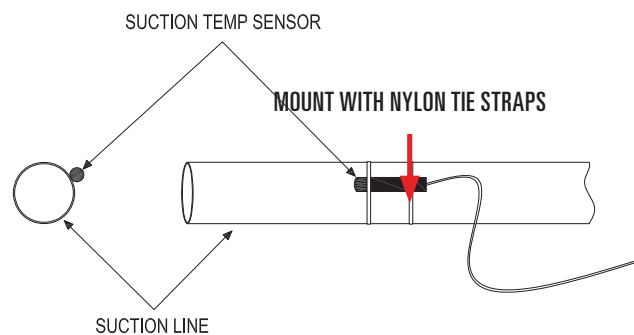

Figure 7
- b. SuctionTemp Sensor (Figure 7) must be removed from the suction line prior to brazing. The sensor must be reinstalled on the suction line (10 or 2 o'clock position) after brazing is completed and the tubing has been allowed to cool down. Use nylon tie straps to secure the SuctionTemp thermistor as shown in Figure 7. After suction temp sensor is installed, suction line should be insulated and the sensor should be covered with the insulation.